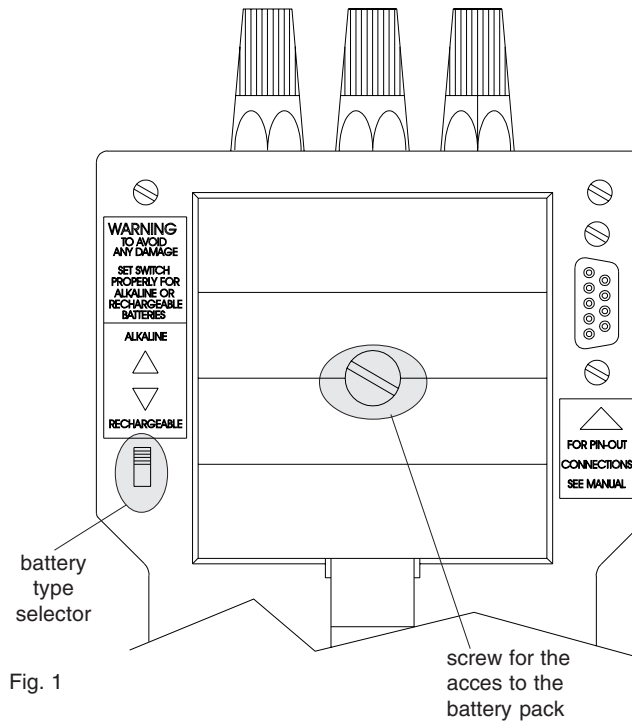
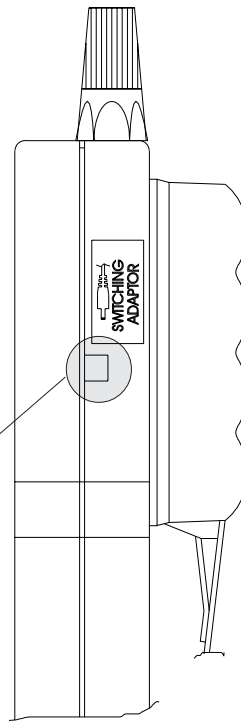

Fig. 1
Fig. 2
- 1) Before to connect the AC adapter to the instrument, set the battery type selector (see fig. 1) in accordance with the battery type inserted in the instrument.
When the AC adapter is connected directly to the instrument (see fig. 2) and the battery type selector (see fig. 1) is set for rechargeable battery type, the batteries will be recharged in trickle charge mode.
- 1) unscrew the battery cover (see fig. 1)
- 1) After a battery replacement, set the battery type selector (see fig. 1) in accordance with the battery type inserted in the instrument.